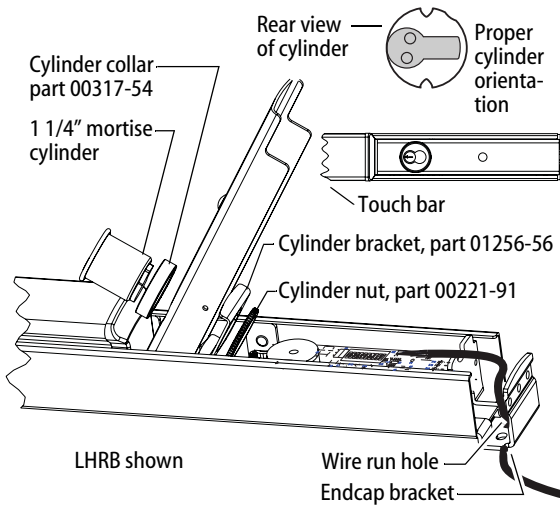

Figure 3 Installing the key cylinder
- Insert the key cylinder through the cylinder collar, the access cover, then the cylinder bracket and secure with the cylinder nut. The keyway should be toward the touch bar. See Figure 3.